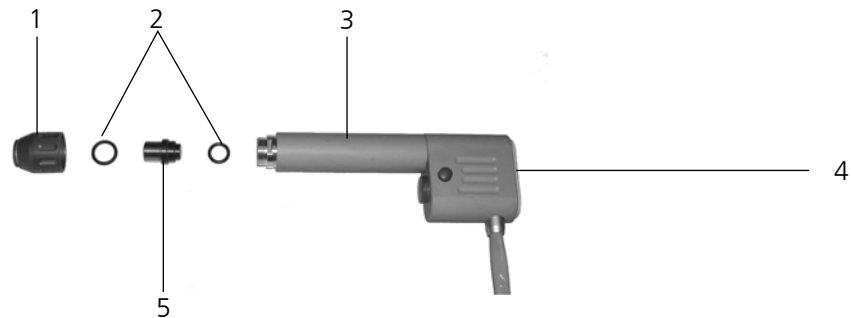

Fig. 4 – 11 Sealing ring replacement
- Screw off the shock transmitter screw cap (Fig. 4 – 9/1).
- Remove both sealing rings (Fig. 4 – 9/2) and dispose of them.
- Fit two new sealing rings to the shock transmitter (Fig. 4 – 9/5).
- Remove the old shock absorber (Fig. 4 – 11/4) with a pointed object (screwdriver).